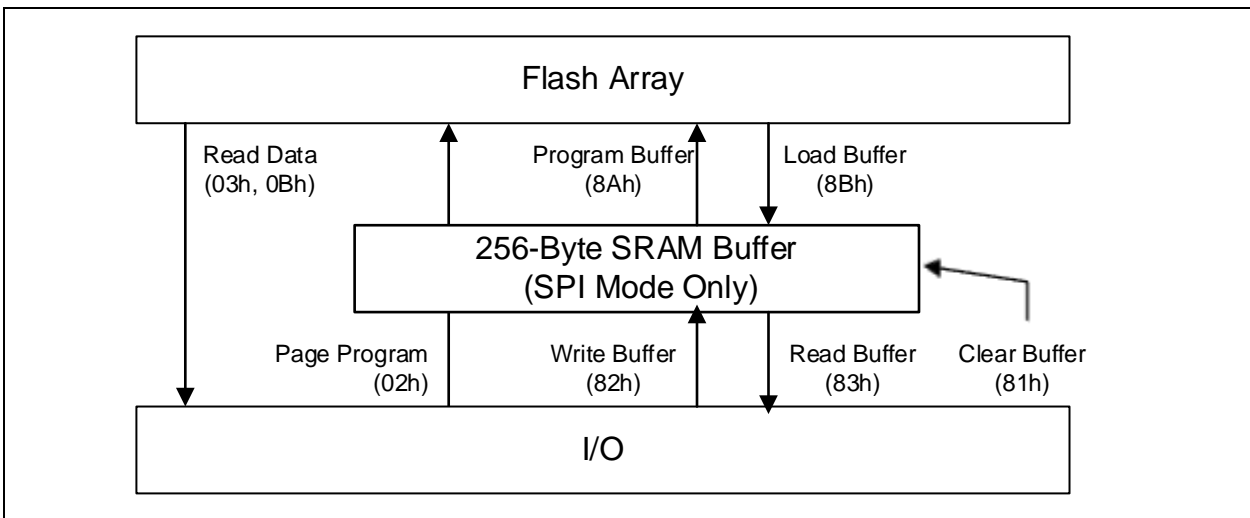

Figure 3. Serial Flash Buffer Mode
The W25Q16PW supports Quad Peripheral Interface (QPI) operations only when the device is switched from Standard/Dual/Quad SPI mode to QPI mode using the “Enter QPI (38h)” instruction. The typical SPI protocol requires that the byte-long instruction code being shifted into the device only via DI pin in eight serial clocks. The QPI mode utilizes all four IO pins to input the instruction code, thus only two serial clocks are required. This can significantly reduce the SPI instruction overhead and improve system performance in an XIP environment. Standard/Dual/Quad SPI mode and QPI mode are exclusive. Only one mode can be active at any given time. “Enter QPI (38h)” and “Exit QPI (FFh)” instructions are used to switch between these two modes. Upon power-up or after a software reset using “Reset (99h)” instruction, the default state of the device is Standard/Dual/Quad SPI mode. To enable QPI mode, the non-volatile Quad Enable bit (QE) in Status Register-2 is required to be set. When using QPI instructions, the DI and DO pins become bidirectional IO0 and IO1, and the /WP and /HOLD pins become IO2 and IO3 respectively. See Figure 3 for the device operation modes.
Using the Write Buffer instruction, data is first shifted into the SRAM from the SPI bus. When the instruction sequence has been completed, the entire 256-bytes is transferred to the Program Buffer. The Program Buffer supports the array during the Erase/Write cycle (tWP), freeing the SRAM to accept new data. This double-buffering scheme increases erase/write transfer rates and can eliminate the need for external RAM buffers (Figure 3). The SRAM is fully byte-addressable. Thus, the entire 256-bytes, a single byte, or a sequence of bytes can be read from or written to the SRAM. This allows the SRAM to be used as a temporary work area for read-modify-write operations prior to a sector write.